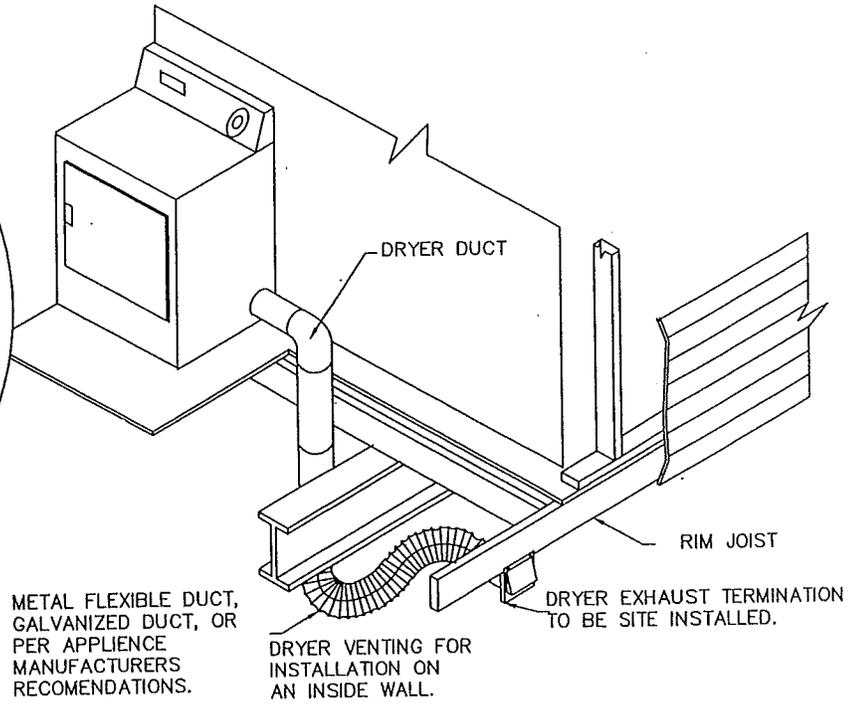

FIGURE 91
1. An access panel is located in the dryer area to provide access to the dryer end of the duct system. See Figures 91 and 92.
3. The exhaust system shall be completed on site as shown with materials provided by the owner. See Figures 91 and 92.